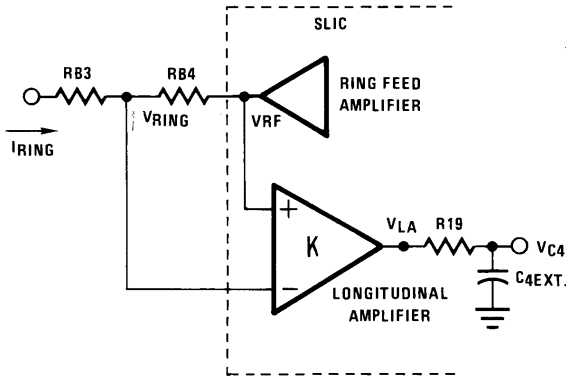

FIGURE 2.
For Case 1, refer to Figures 2 and 3. In this situation the desired result is obtained, namely, that ring sync occurs during the negative peak of V_{C4} . This helps achieve ring trip faster because, once a subscriber goes off-hook, a negative DC shift is observed at V_{C4} . This shift approaches a comparator threshold in the ring trip detection circuit. If the negative peak of V_{C4} (AC) precedes the negative going DC shift at V_{C4} , one can achieve ring trip in a shorter time frame. Also this configuration allows ring trip to occur for long lines, in the order of 3000Ω . At these line lengths, the DC negative shift will never reach the threshold because there is not enough DC current through the sense resistor, $RB4$. However, the negative peak of V_{C4} (AC) will cross the ring trip detector comparator threshold and ring trip will occur.